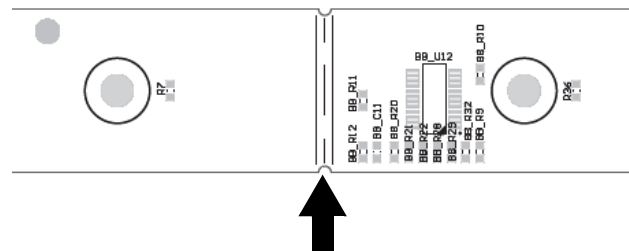

Figure 3: Cutting a VC-Strip
3. See Figure 3. Using a small rotary cutting tool (Dremel or similar) with a fine-tooth cutting wheel, cut the VC-Strip along the dotted line at a cutting point.